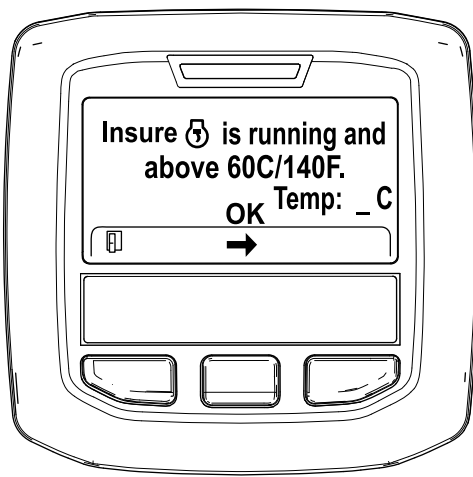

Figure 47
5. If the coolant temperature is below 60°C (140°F) the "Insure  is running and above 60C/140F" message displays. (Figure 47).